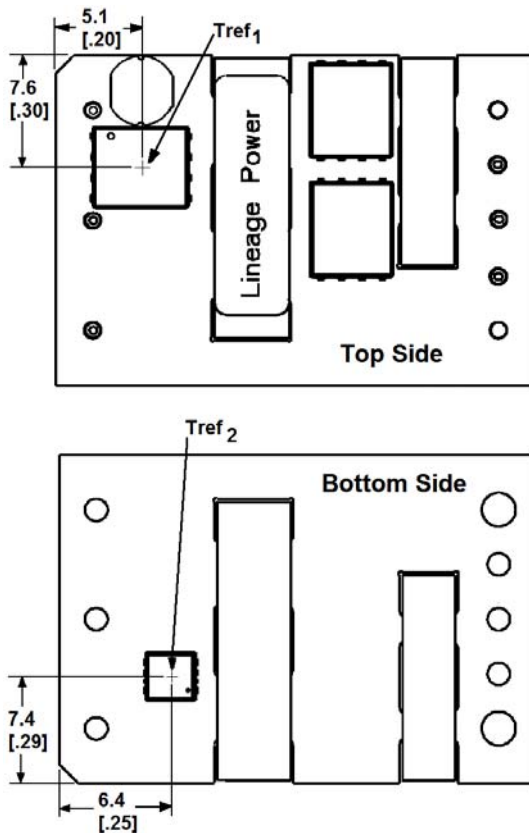

Figure 19. Tref_x Temperature Measurement Location.
To provide protection under certain fault conditions, the unit is equipped with a thermal shutdown circuit. The unit will shutdown if the thermal reference point T_{ref} (Figure 19), exceeds 128-133 $^{\circ}$ C (typical) depending on T_A and airflow, but the thermal shutdown is not intended as a guarantee that the unit will survive temperatures beyond its rating. The module can be restarted by cycling the dc input power for at least one second or by toggling the remote on/off signal for at least one second. If the auto-restart option (4) is ordered, the module will automatically restart upon cool-down to a safe temperature.
The thermal reference points, $T_{ref,x}$, used in the specifications are shown in Figure 19. For reliable operation, the temperature of both T_{ref} points should not exceed 125°C.